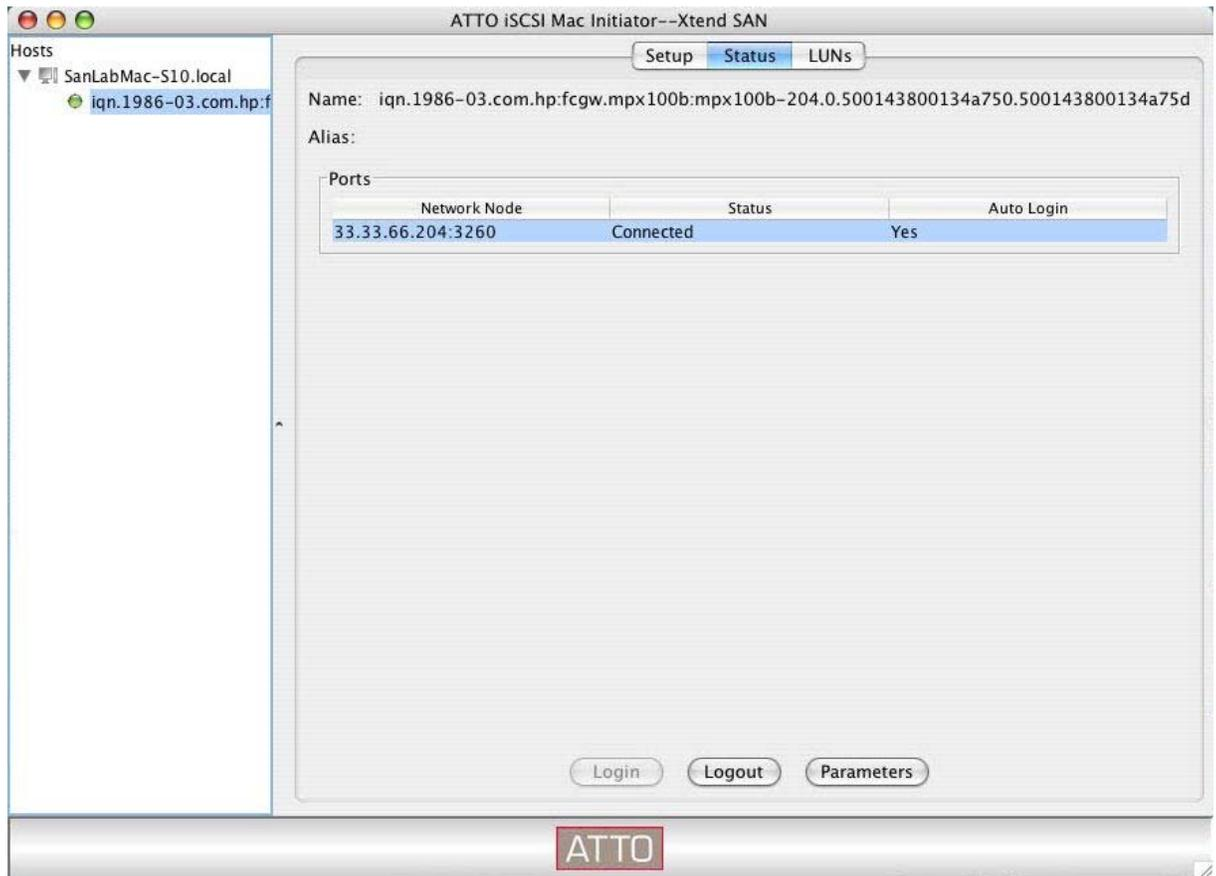

Figure 31 Select status
- i. Select **Status**, select **Network Node**, and then select **Login** to connect to the mpx target (Figure 31).